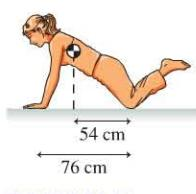

FIGURE P8.38
38. A woman weighing 580 N does a pushup from her knees, as shown in Figure P8.38. What are the normal forces of the floor on (a) each of her hands and (b) each of her knees?